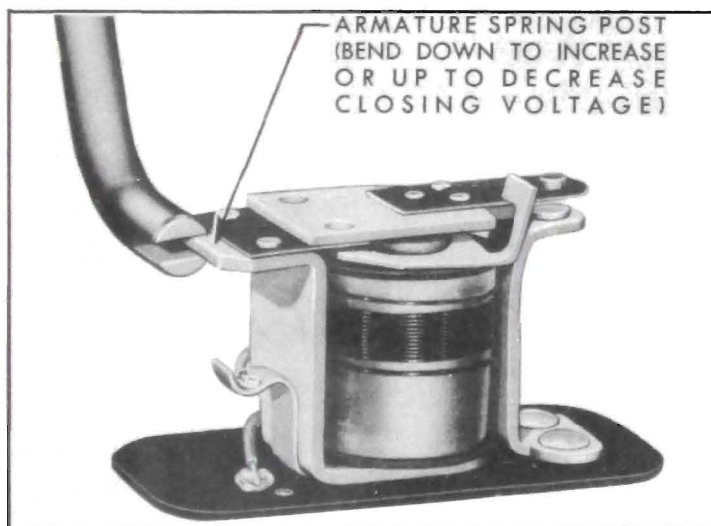

Figure 10-78—Adjustment of Horn Relay Closing Voltage
9. If closing voltage is not within specified limits, bend the armature spring post as required. Bend down to increase closing voltage or bend up to decrease closing voltage. See figure 10-78.